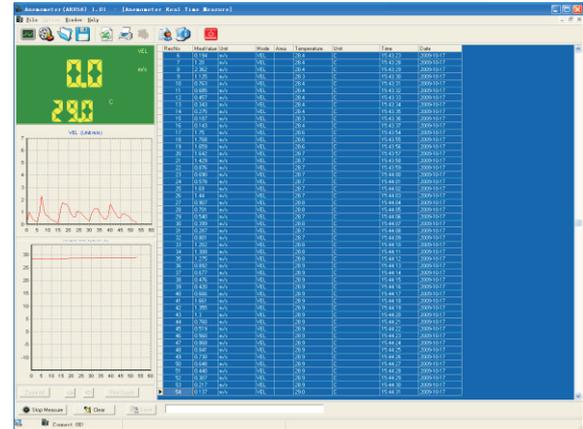

Figure 9
- Click " real time measure " in " File " menu or , real time measure bottom in toolbar will popup following picture, as shown in figure 9, enter real time measuring mode .